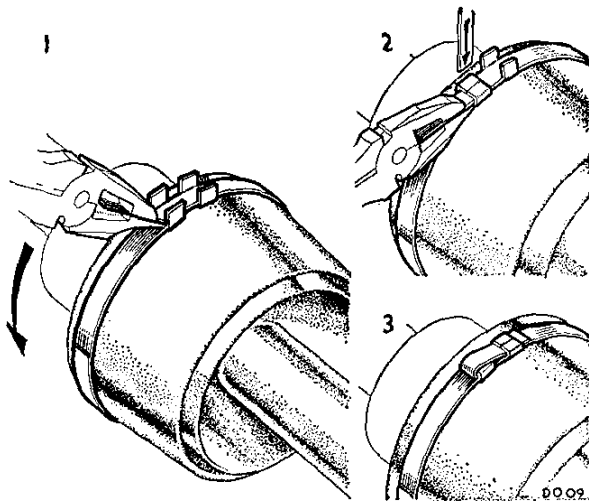

Fig. G.6
● Fig. G.6
(25) Hold the shaft in a vice and locate the inner race on the shaft. Press the joint assembly against the spring ring whilst locating the ring centrally and contracting it in the chamfer of the inner race with screwdrivers. With the spring ring centralized, a sharp tap on the end of the stub shaft with a soft faced mallet will close up the ring, and the assembly can then be tapped on to the drive shaft. Make sure that the shaft is fully engaged, with the inner race against the circlip and that the inner ring has expanded inside the joint.
(26) Slide the rubber boot over the bell joint until the radiused rib registers in the locating groove, and secure it with the large clinching clip using Service tool 18G 1099 (Fig. G.6). This is fitted with the tab pulled through away from the direction of forward rotation. Locate the other end of the boot in the groove in the drive shaft and secure it with the small clinching clip using pliers 18G 1099.
●NOTE.—A modified rubber boot which has axial convolutions (see Fig. G.6) should be fitted when a replacement is required.●
- (25) Hold the shaft in a vice and locate the inner race on the shaft. Press the joint assembly against the spring ring whilst locating the ring centrally and contracting it in the chamfer of the inner race with screwdrivers. With the spring ring centralized, a sharp tap on the end of the stub shaft with a soft faced mallet will close up the ring, and the assembly can then be tapped on to the drive shaft. Make sure that the shaft is fully engaged, with the inner race against the circlip and that the inner ring has expanded inside the joint.
- (26) Slide the rubber boot over the bell joint until the radiused rib registers in the locating groove, and secure it with the large clinching clip using Service tool 18G 1099 (Fig. G.6). This is fitted with the tab pulled through away from the direction of forward rotation. Locate the other end of the boot in the groove in the drive shaft and secure it with the small clinching clip using pliers 18G 1099.
- (27) Lubricate the yoke end of the drive shaft and the inside of the yoke housing seal and slide the seal onto the shaft. Fill the cavity in the sliding joint yoke with $\frac{3}{4}$ oz. (21 gm.) of Duckham's M-B grease and fit the yoke to the shaft. Locate the seal into the groove on the shaft and the other end over the sleeve location. Push the shaft to the bottom of the yoke so that grease is driven into the seal. Hold the outer lip of the seal open to allow air and surplus grease to escape, ensure that the diameter of the bellows does not exceed 1.75 in. (44.5 mm.). Secure the yoke seal with clinching clips using pliers 18G 1099.